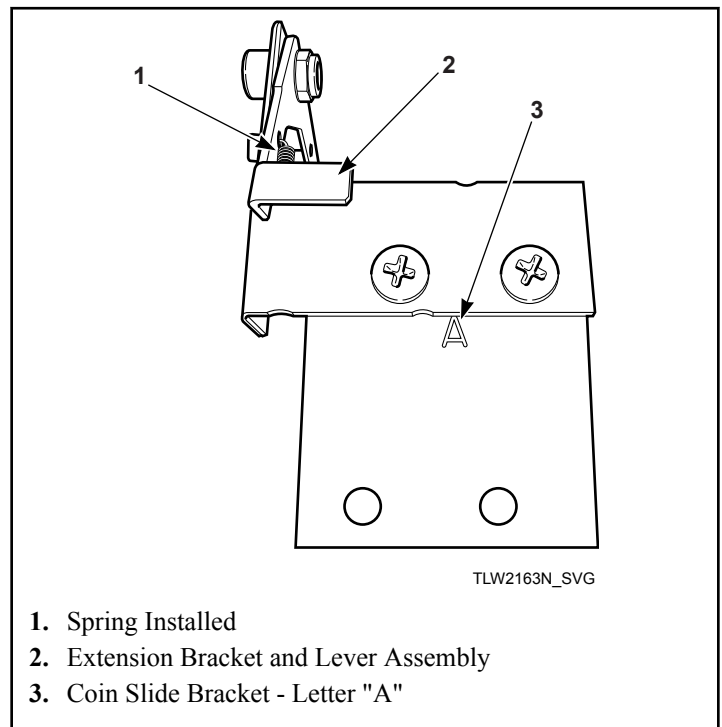

Figure 15
- Install extension bracket and lever assembly onto coin slide bracket using two screws and locknuts. Refer to *Figure 15*.
IMPORTANT: Install coin slide bracket with side marked "A" facing up and toward extension bracket and lever assembly. Refer to *Figure 15*.